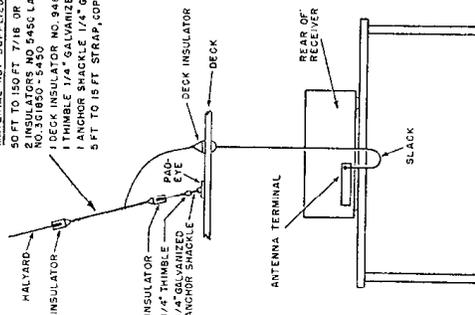

Figure 5. A method of installing a ship antenna.
b. In the event this receiver is to be installed on a ship that has no predetermined antenna location, the antenna should be located as high above the deck of the ship as possible. Figure 5 shows a method of installation that is often used.
corner of the cover. These projections have holes in them so that the desk or table top can be marked easily by pencil from the inside of the cover. If the table or desk top is metal, drill holes through the top and firmly bolt the dust cover to it. If the desk or table top is wood, attach the dust cover to it with wood screws. After the cover has been secured, replace the receiver in it. It is essential that the receiver be mounted firmly on the desk to prevent it from moving about and being damaged in the event that the ship pitches or rolls in heavy seas. The antenna may be connected as shown in figure 5.